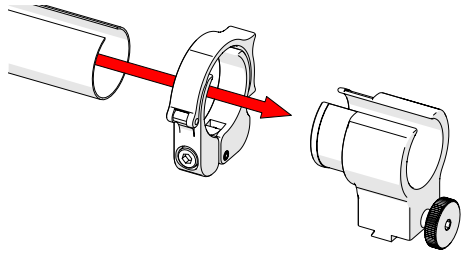

Fig. 37 - Slide tube around mount
2. Slide the clamp around the sleeving first and then slide the sleeving around the outside of the cable management dovetail mount (*Fig. 37*). Align the zipper opening and the cable management dovetail mount opening.